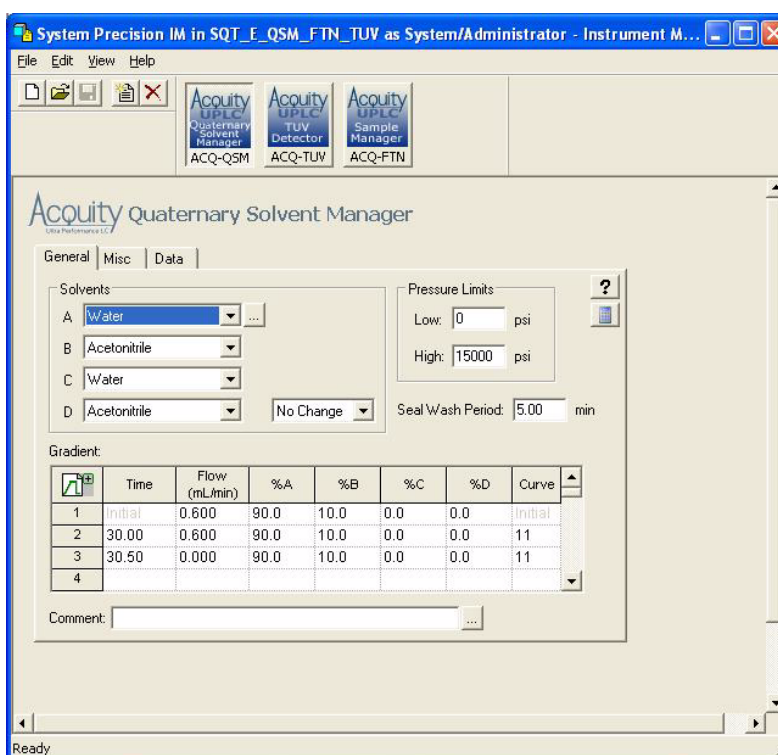
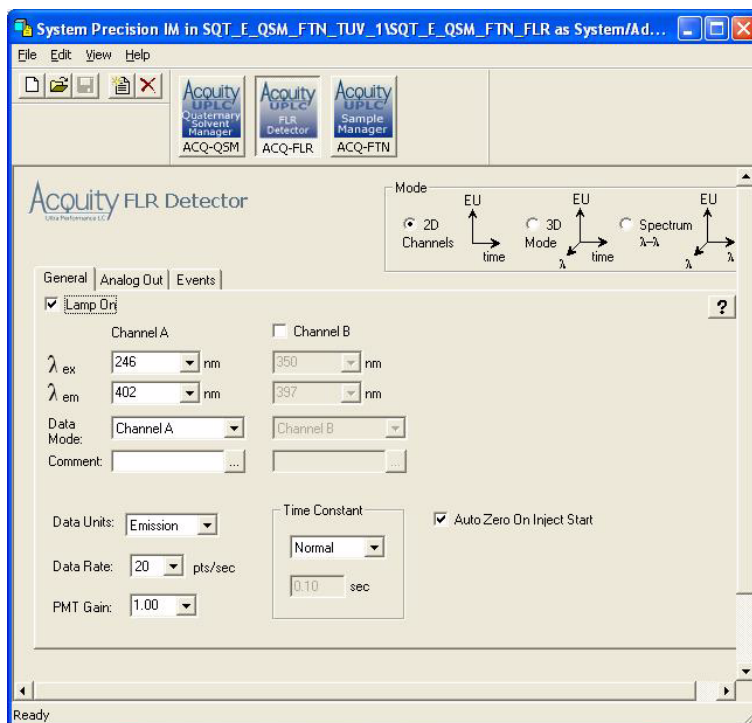

Figure 23 - System Precision Parameters for the Quarternary Solvent Manager for the TUV, PDA, or ELSD
Figure 30 - System Precision Parameters for the FLR
1. Open the instrument or inlet method appropriate for the system, then verify that the parameters settings are set up as shown in Figure 23 through Figure 30. Parameters for both Empower- and MassLynx-based systems must match.